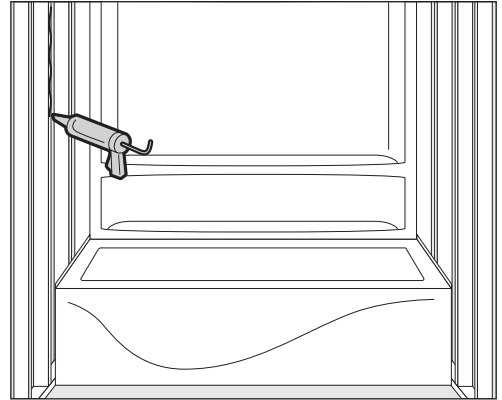

FIGURE 6. Apply adhesive.
- Apply adhesive to each stud for faucet side panel and push side panel firmly into place. **(Fig. 6)**